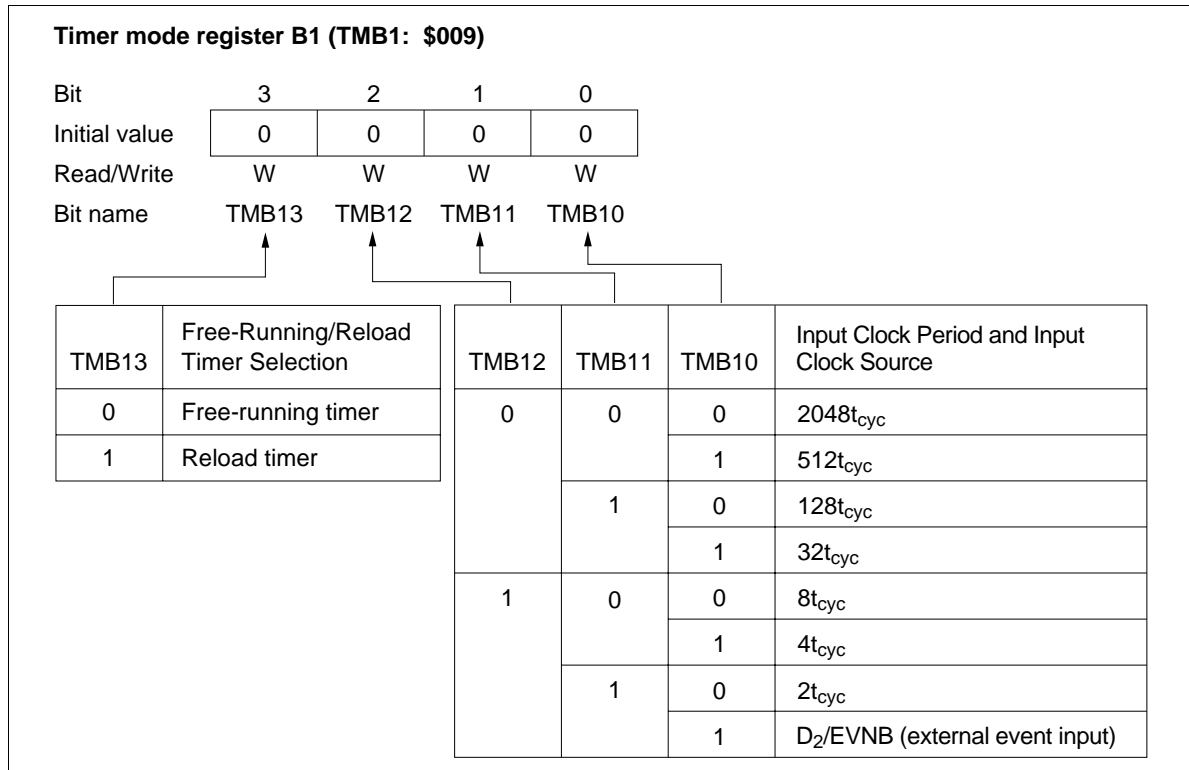

Figure 40 Timer Mode Register B1 (TMB1)
- Timer mode register B1 (TMB1: \$009): Four-bit write-only register that selects the free-running/reload timer function, input clock source, and the prescaler division ratio as shown in figure 40. It is reset to \$0 by MCU reset.